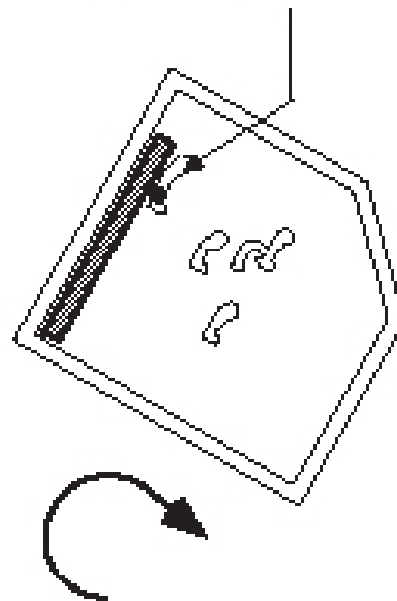

Fig. 5 Using the retainer bar
4. As the load enclosure tilts, the top of the container or pallet will try to fall forward. See Fig. 5. To prevent this, you should install the retainer bar in the correct position on the unit. When you are loading the load enclosure, before it is tilted, the retainer bar should be set to hold the upper part of the container or pallet. (If the bar is set farther toward the back of the container or pallet, it may block some of the items as they fall free.) Notice that the bar will slide in the slots as the angle of the load enclosure changes.